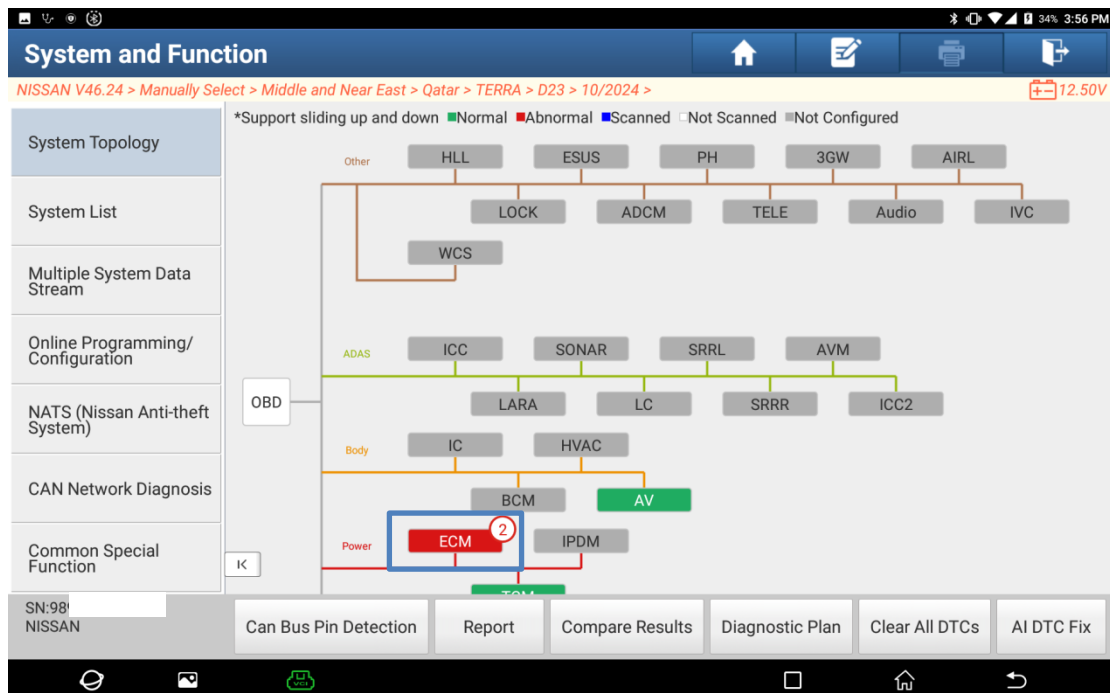
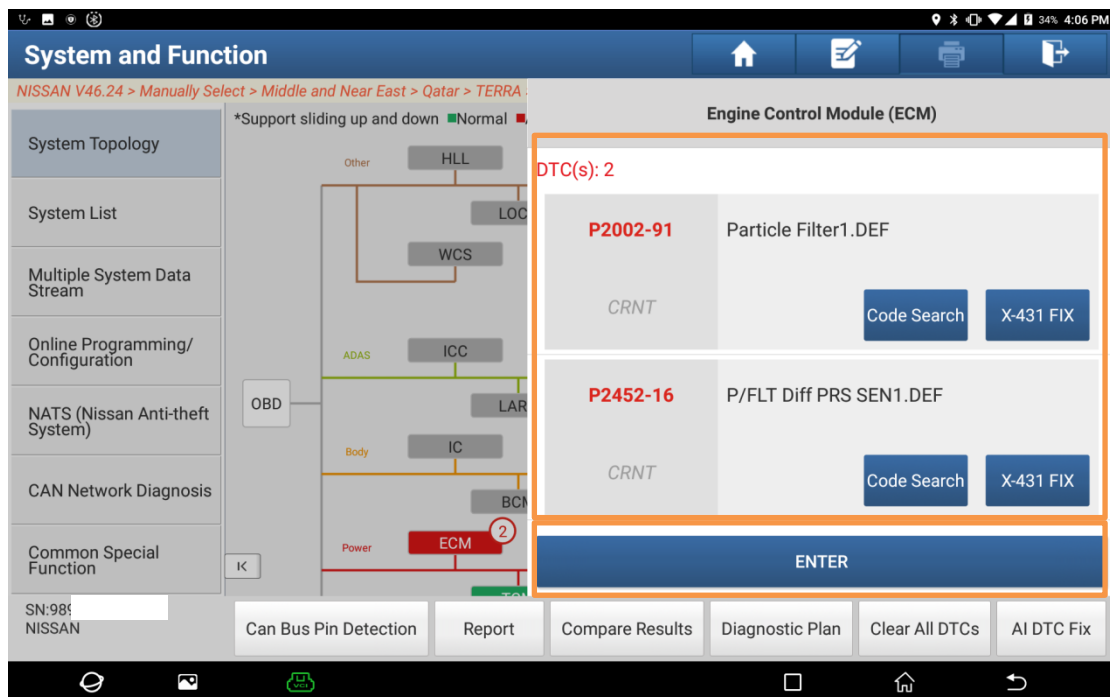

Figure 7
Figure 8
4. After the detection is completed, click [ECM] on the system topology (Figure 7) to display ECM DTC information (Figure 8). If fault information similar to that in Figure 8 is read, and peripheral issues (such as sensor faults or exhaust leaks) have been ruled out, it indicates that the service regeneration function needs to be executed.